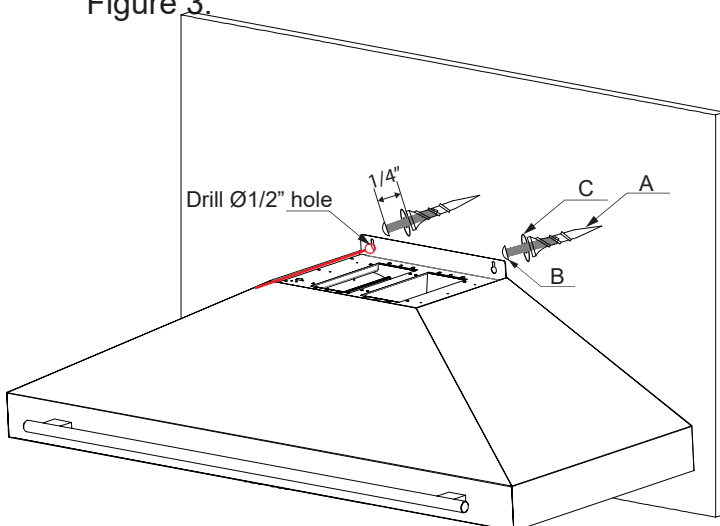

Figure 2.
- Remove the hood and drill 1/2" (0.50") holes at the marked points to fit the  $\Phi 0.51$ " spiral plastic expansion anchors (A). See Figure 2.